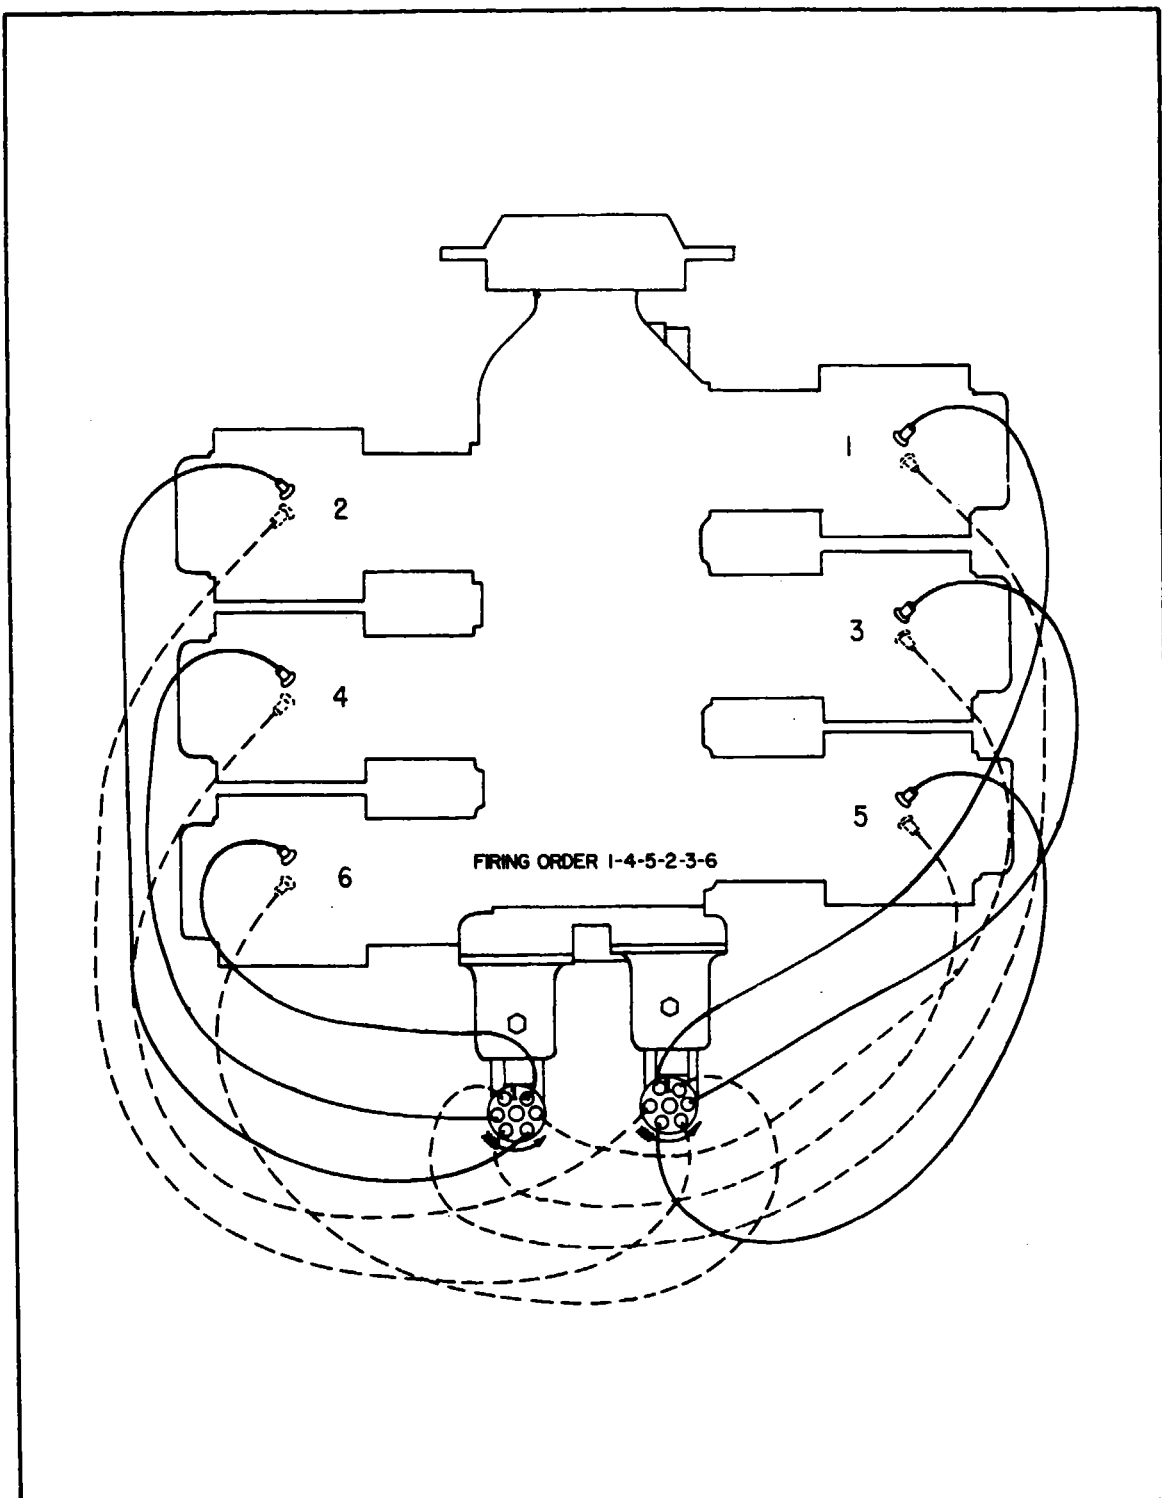

Figure 8-20. Ignition System Schematic
d. Removal of seized spark plugs in the cylinder may be accomplished by application of liquid carbon dioxide by a Conical metal funnel adapter with a hole at the apex just large enough to accommodate the funnel of a CO₂ bottle. (Refer to Figure 8-20.) When a seized spark plug cannot be removed by normal means, the funnel adapter is placed over and around the spark plug. Place the funnel of the CO₂ bottle inside the funnel adapter and release the carbon dioxide to chill and contract the spark plug. Break the spark plug loose with a wrench. A warm cylinder head at the time the carbon dioxide is applied will aid in the removal of an excessively seized plug.